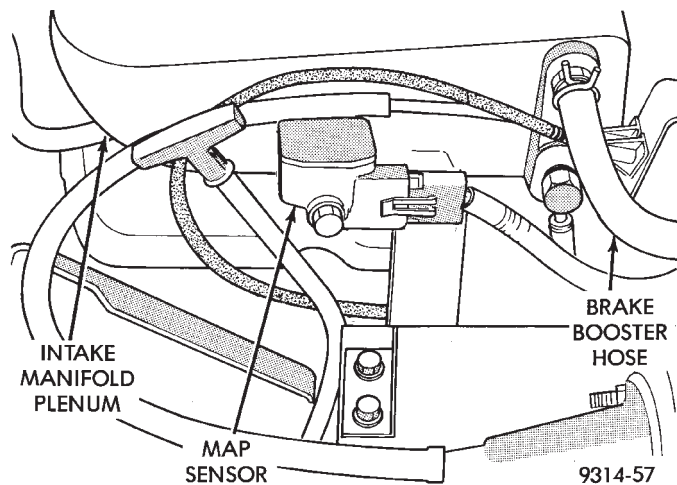

Fig. 21 MAP Sensor—3.5L Engine
(7) Disconnect electrical connector from manifold absolute pressure (MAP) sensor (Fig. 21).